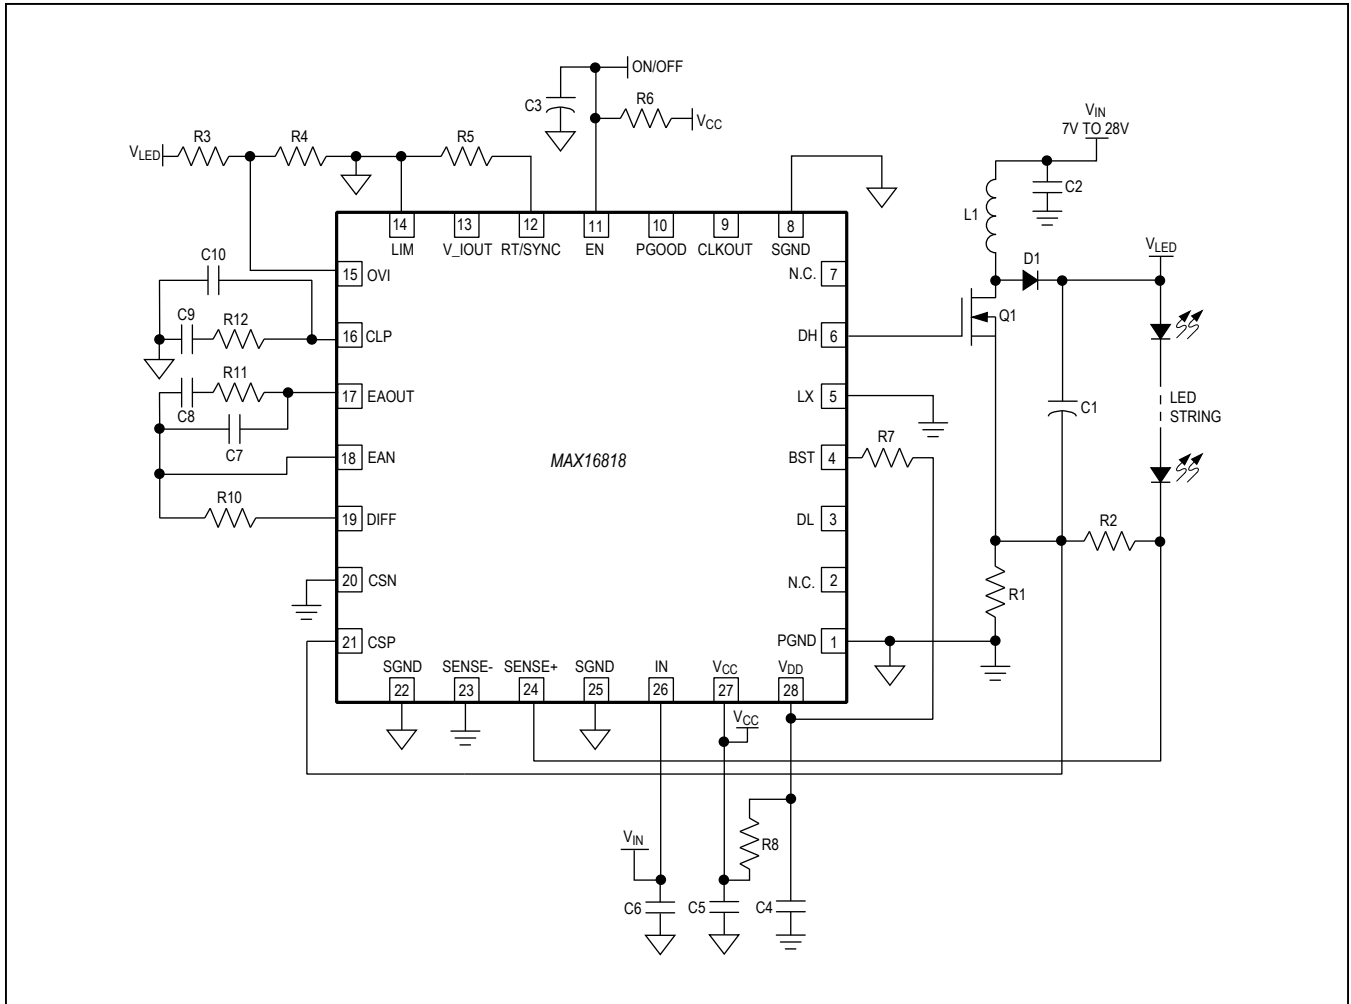
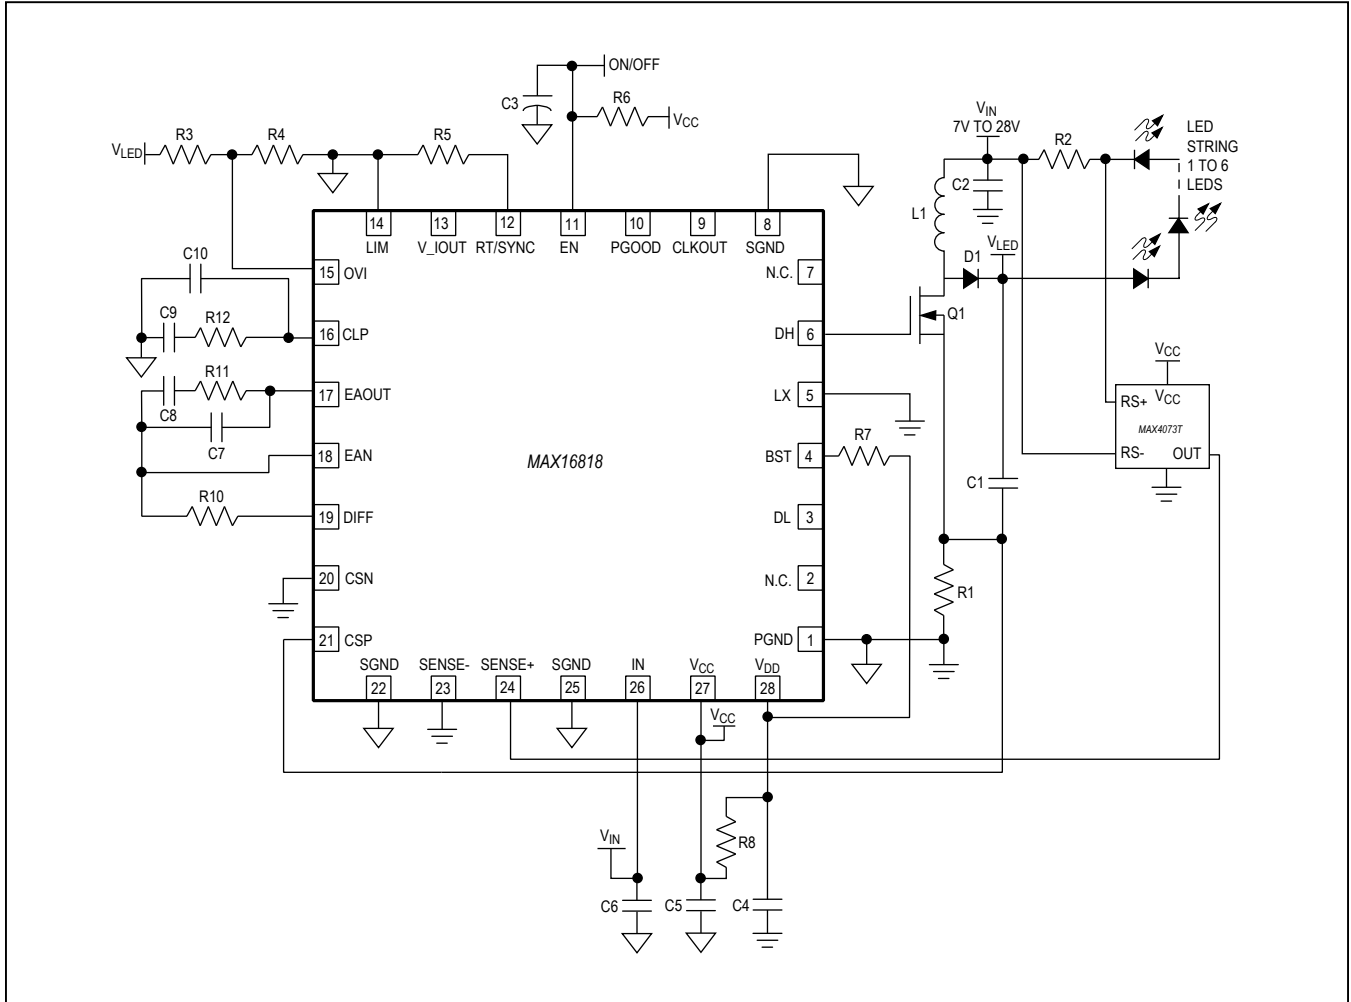

Figure 1. Typical Application Circuit for a Boost LED Driver (Nonsynchronous)
Figure 2. Typical Application Circuit for an Input-Referred Buck-Boost LED Driver (Input: 7V to 28V, Output: 1 to 6 LEDs in Series)
The high-side (DH) and low-side (DL) drivers drive the gates of external n-channel MOSFETs (Figures 1–5). The drivers' 4A peak sink- and source-current capability provides ample drive for the fast rise and fall times of the switching MOSFETs. Faster rise and fall times result in reduced cross-conduction losses. Due to physical realities, extremely low gate charges and $R_{DS(ON)}$ resistance of MOSFETs are typically exclusive of each other. MOSFETs with very low $R_{DS(ON)}$ will have a higher gate charge and vice versa. Choosing the high-side MOSFET (Q1) becomes a trade-off between these two attributes. Applications where the input voltage is much higher than the output voltage result in a low duty cycle where conduction losses are less important than switching losses. In this case, choose a MOSFET with very low gate charge and a moderate $R_{DS(ON)}$. Conversely, for applications where the output voltage is near the input voltage resulting in duty cycles much greater than 50%, the $R_{DS(ON)}$ losses become at least equal, or even more important than the switching losses. In this case, choose a MOSFET with very low $R_{DS(ON)}$ and moderate gate charge. Finally, for the applications where the duty cycle is near 50%, the two loss components are nearly equal, and a balanced MOSFET with moderate gate charge and $R_{DS(ON)}$ work best.
This section provides some detail regarding the application circuits in the *Simplified Diagram* and Figures 1–5. The discussion includes some description of the topology as well as basic attributes.
In Figure 1, the external components configure the MAX16818 as a boost converter. The circuit applies the input voltage to the inductor during the on-time, and then during the off-time the inductor, which is in series with the input capacitor, charges the output capacitor. Because of the series connection between the input voltage and the inductor, the output voltage can never go lower than the input voltage. The design is nonsynchronous, and since the current-sense resistor connects to ground, the power supply can go to any output voltage (above the input) as long as the components are rated appropriately. R2 again provides the sense voltage the MAX16818 uses to regulate the LED current.
The circuit in Figure 2 shows a step-up/step-down regulator. It is similar to the boost converter in Figure 1 in that the inductor is connected to the input and the MOSFET is essentially connected to ground. However, rather than going from the output to ground, the LEDs span from the
output to the input. This effectively removes the boost-only restriction of the regulator in Figure 1, allowing the voltage across the LEDs to be greater than or less than the input voltage. LED current sensing is not ground-referenced, so a high-side current-sense amplifier is used to measure current.